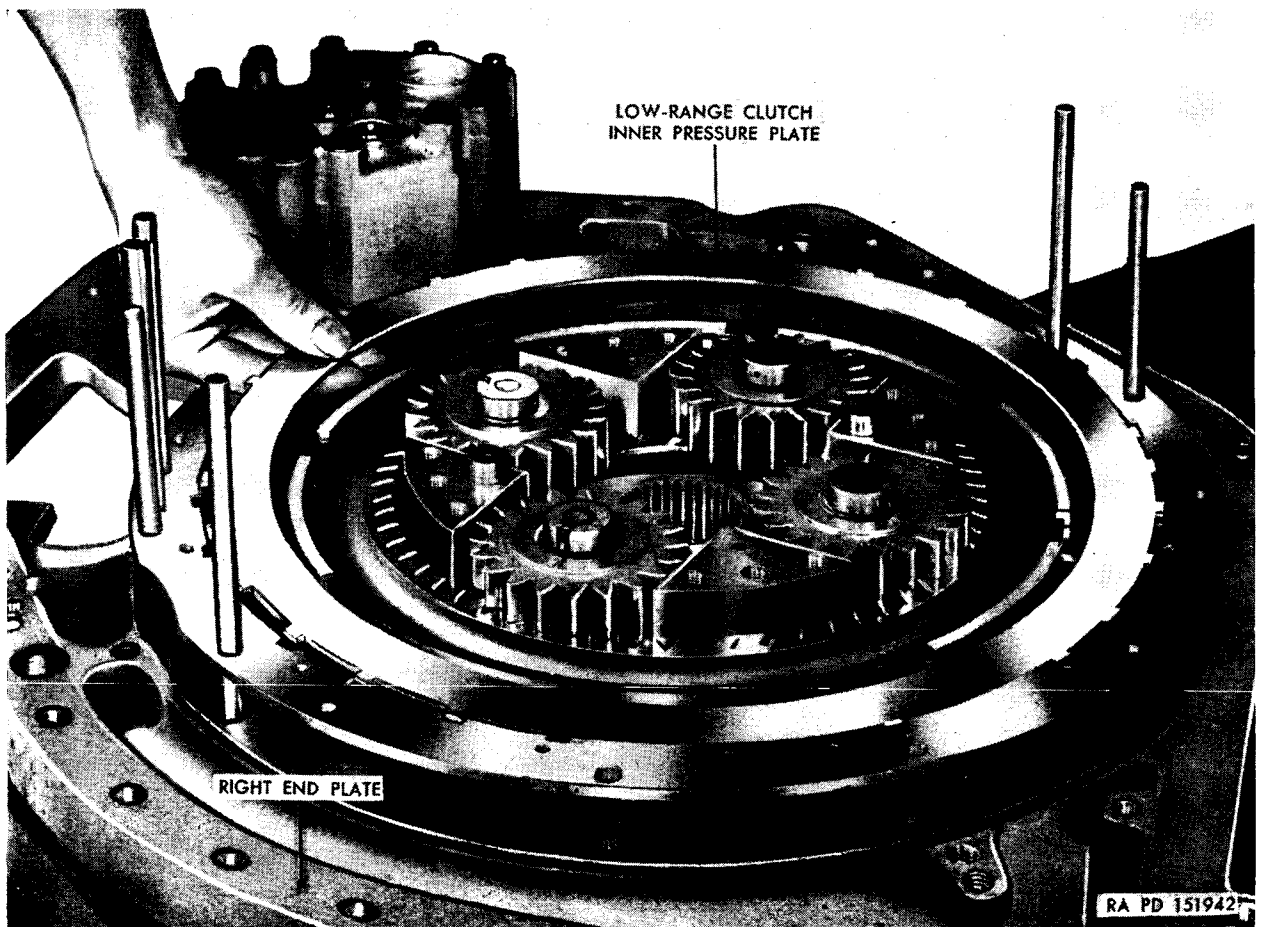
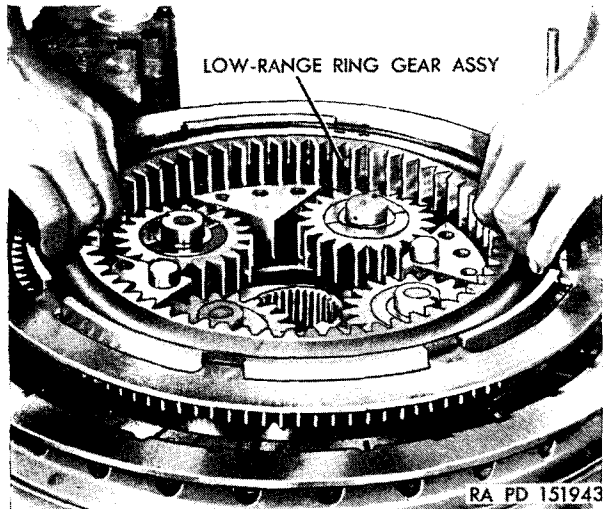
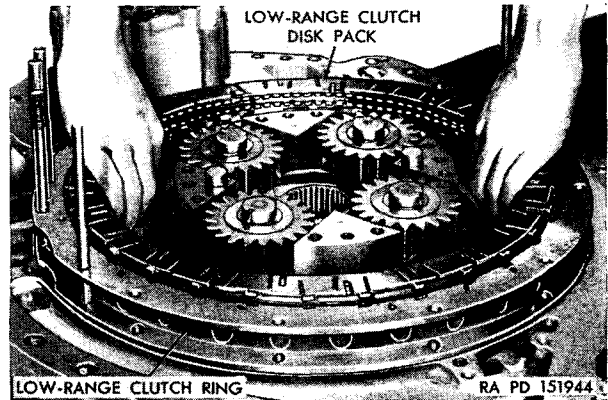

Figure 203. Removing or installing inner pressure plate.
Figure 204. Removing or installing low-range ring gear assembly.
Figure 205. Removing low-range-clutch disk pack.
- (1) Remove the low-range back plate. Remove the 12 low-range piston-return pins from the back plate.
- (2) Remove the low-range-clutch-inner-pressure plate (bronze) (fig. 203). Remove the low-range ring gear assembly (fig. 204). Remove the low-range-clutch disk pack, consisting of five disks (fig. 205).